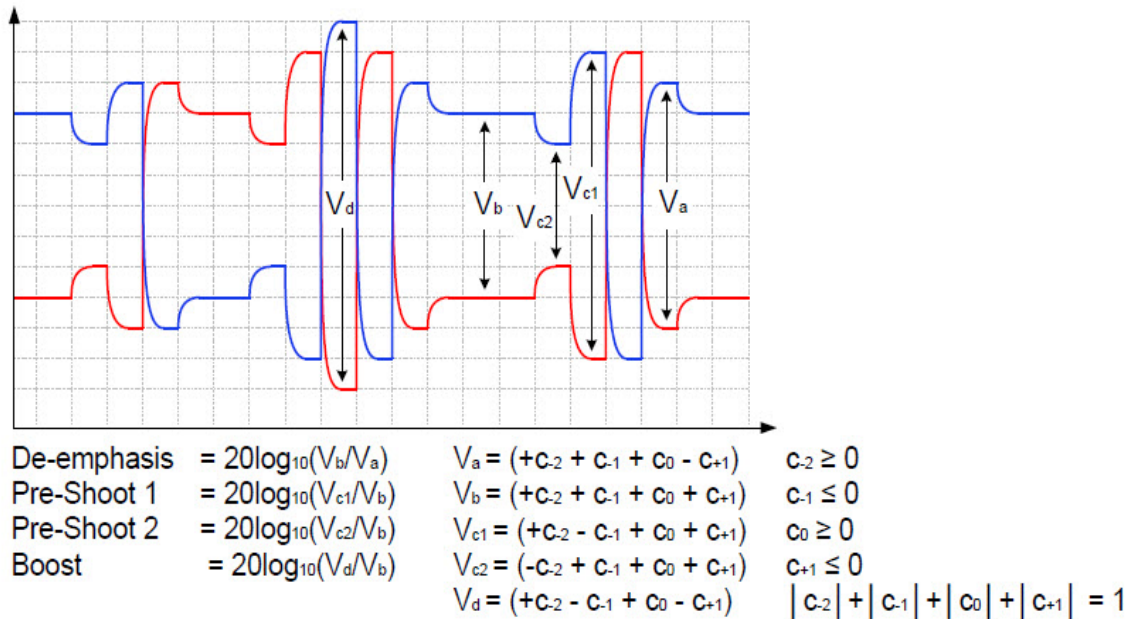

Figure 14 Waveform measurement points for preshoot and de-emphasis
64.0 GT/s PCIe signaling must support the full range of presets given in Table 8-2 (PCI Express Base Specification Revision 6.0). Presets are defined in terms of ratios, relating the pre-cursor and post-cursor equalization voltages. The pre-cursor (V_c) is referred to as pre-shoot, while the post-cursor (V_b) is referred to as de-emphasis. This convention permits the specification to retain the existing 2.5 GT/s and 5.0 GT/s definitions for Tx equalization, where only de-emphasis is defined, and it allows preshoot and de-emphasis to be defined such that each is independent of the other. The tolerances in Table 8-1 (PCI Express Base Specification Revision 6.0) also apply to 2.5 and 5.0 GT/s de-emphasis. The maximum swing, V_d , is also shown to illustrate that, when both c_{+1} and c_{-1} are nonzero, the swing of V_a does not reach the maximum as defined by V_d . The high frequency nature of PCIe signaling makes measurement of single UI pulse heights impractical. Consequently all amplitude measurements are made with low frequency waveforms as shown in Figure 14.